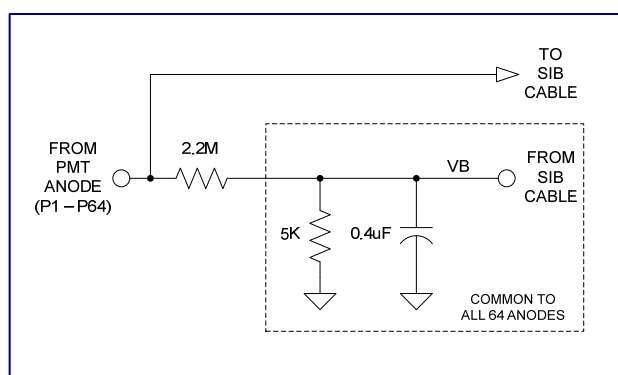

Figure 4: Anode Circuit
The 64 anode signals (P1 – P64) from the PMT are routed directly on the SIB164A to two specialized connectors referred to as sensor interface board (SIB) connectors. Anodes P1 to P32 route to SIB connector J1 and anodes P33 to P64 route to SIB connector J2. Each SIB connector mates to a proprietary low-noise, high density SIB cable assembly that carries the 32 anode signals on coaxial connections to a Vertilon PhotoniQ 64 channel PMT data acquisition system. Depending on the required speed and dynamic range, either a PhotoniQ IQSP482 high dynamic range system or an IQSP582 high speed system can be used as the main data acquisition unit. To minimize the possibility of damage due to ESD, the PMT's anodes each have a 2.2 Mohm shunt resistor to a common low impedance point. This point is biased at a voltage equal to the bias voltage (VB) of the charge integrating transimpedance amplifiers on the PhotoniQ so that the PMT anodes can be DC coupled to them. Figure 4 below illustrates the equivalent circuit as seen by each PMT anode.